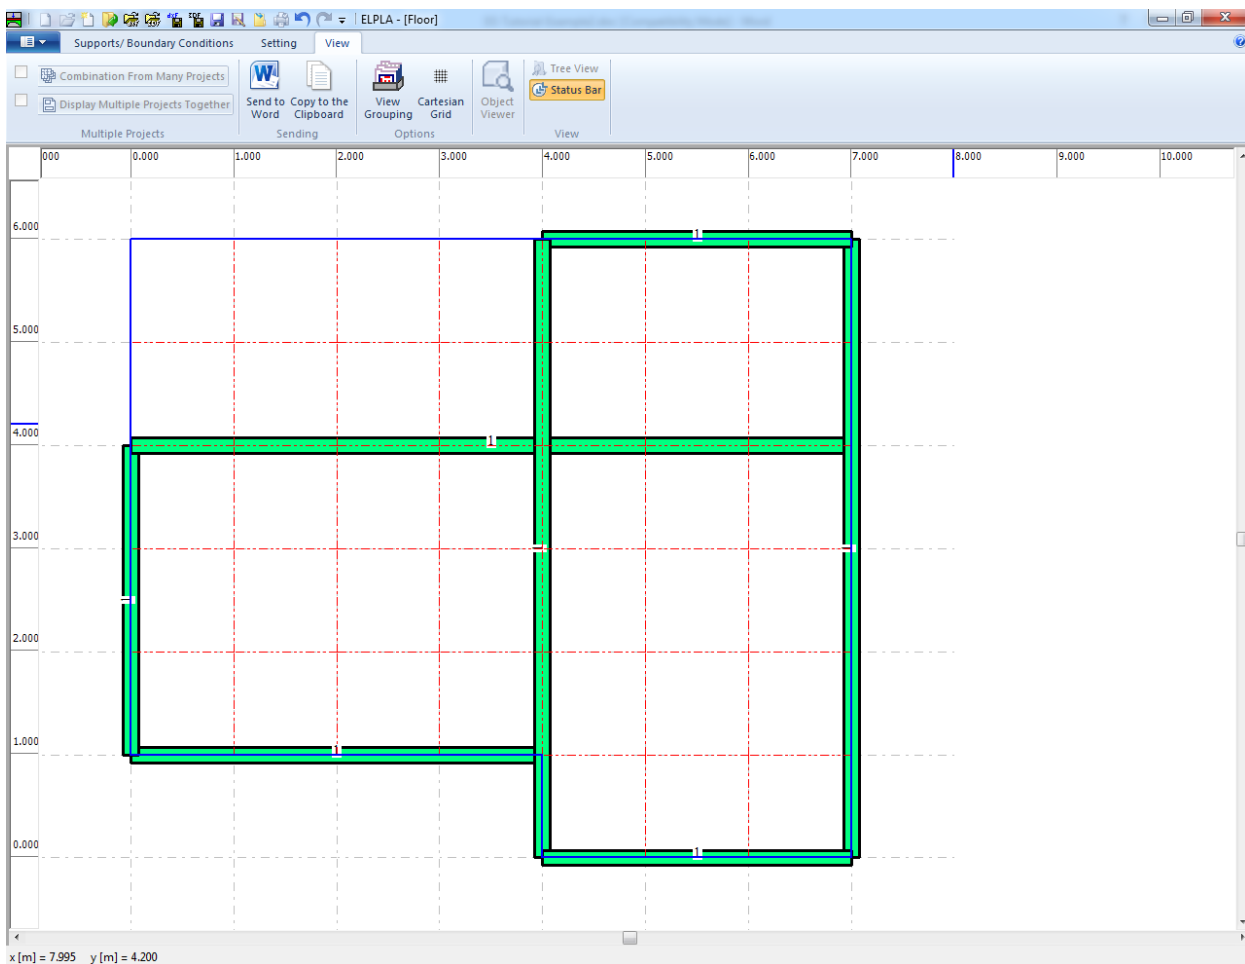
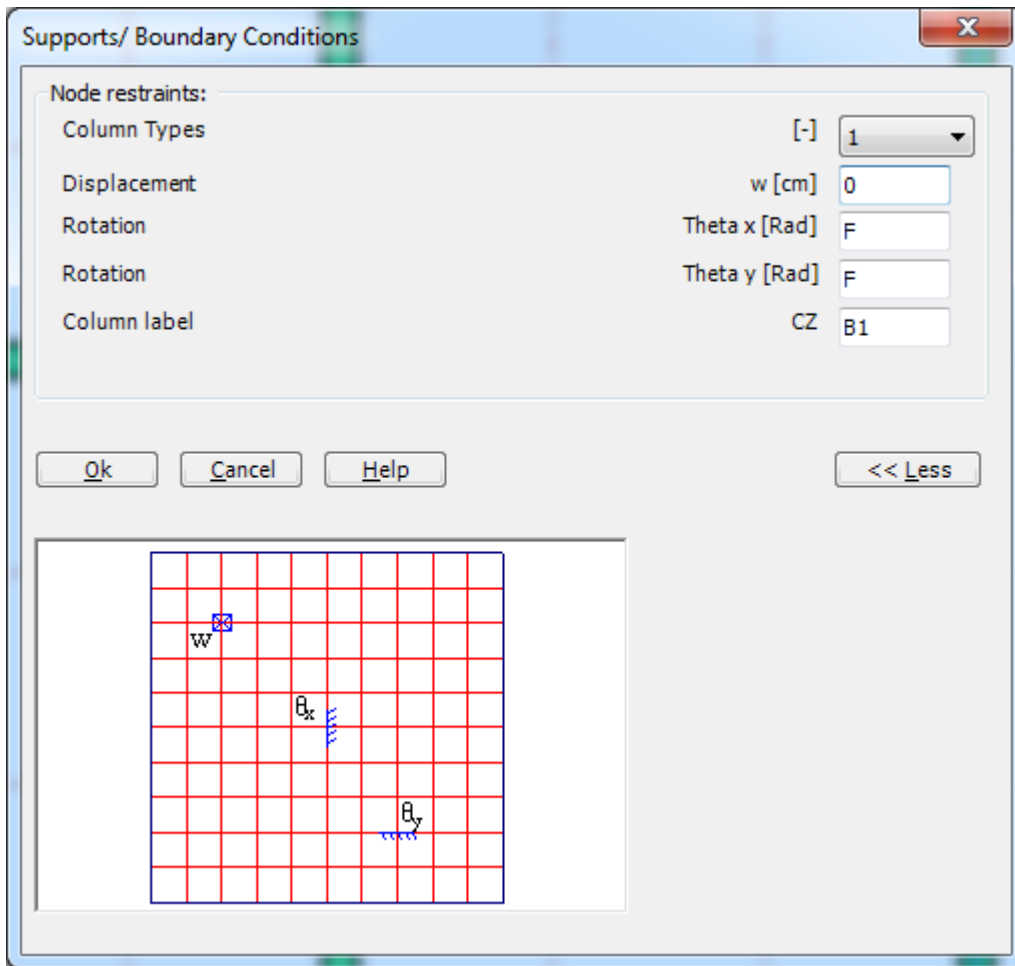

Figure 2.22 Girders in the window of the "Supports/ Boundary Conditions" Window
Figure 2.24 "Supports/ Boundary Conditions" dialog box
After clicking "OK" in the "View Grouping" check group box, the screen should look like the following Figure 2.22.
- Choose "Select Nodes" command from "Supports/ Boundary Conditions" Tab in Figure 2.22. When "Select Nodes" command is chosen, the cursor will change from an arrow to a cross hair
- Click the left mouse button on nodes that have supports as shown in Figure 2.22
- After selecting nodes of supports, choose "Add Supports/ Boundary Conditions" command from "Graphically" menu (Figure 2.22). The "Supports/ Boundary Conditions" dialog box in Figure 2.24 appears